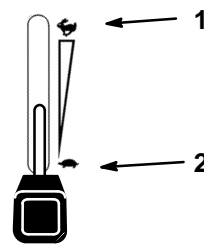

Figure 5
5. Move the throttle control to the “FAST” position before starting a cold engine (Fig. 5).
1. Move the throttle lever to “SLOW” (Fig. 5).